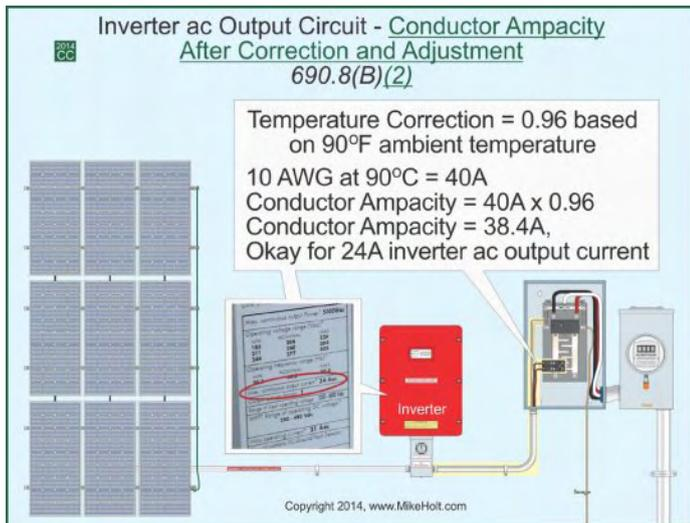

Figure 690-48
**Example:** What's the conductor ampacity after temperature correction for two current-carrying size 10 RHH/RHW-2/USE-2 or PV wires rated 90°C installed at a location where the ambient temperature is 90°F, supplying a 24A inverter output circuit? Figure 690-48
**Conductor Ampacity = Table 310.15(B)(16) Ampacity at 90°C Column x Temperature Correction**